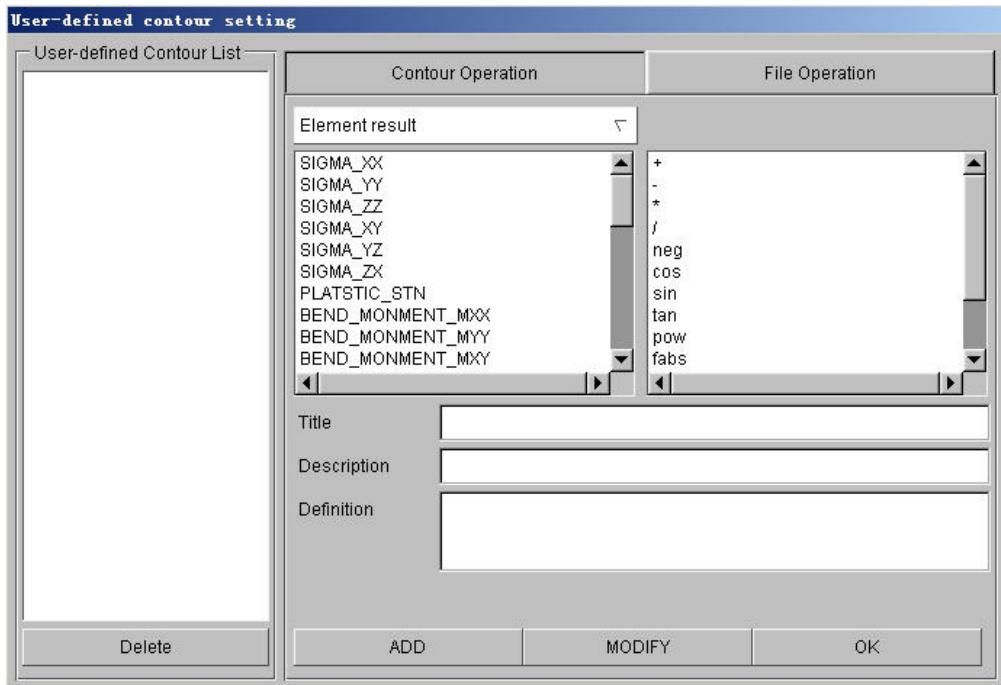

Figure 7.16 CONTOUR OPERATION
1. CONTOUR OPERATION customizes the new component by using mathematic calculation from the standard components, as shown in Figure 7.16.